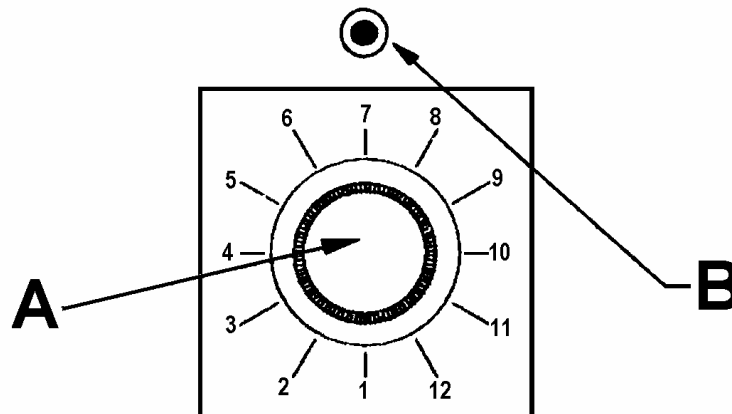

Figure 6
2. Turn knob on rear of machine all the way counterclockwise (A, Fig. 6). Now turn one click at a time clockwise until the LED (B, Fig. 6) comes on.
2. THREAD LABELS FOLLOWING THE DIAGRAM (FIGURE 6, OR 6A) IN THE INSTRUCTION BOOK.